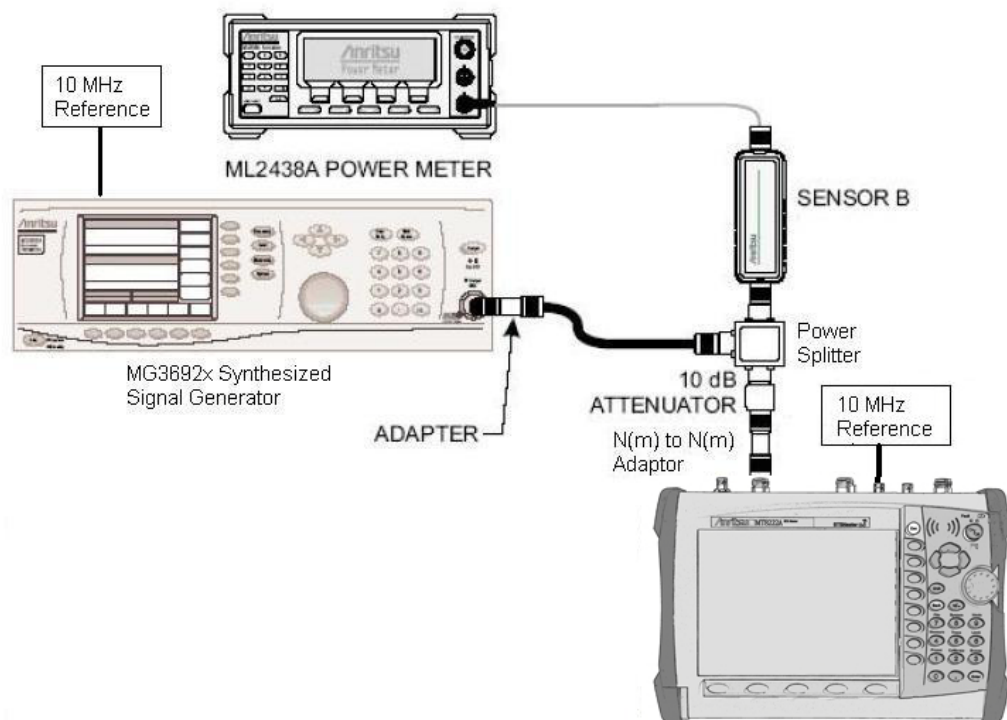

Figure 2-3. 50 MHz Amplitude Accuracy Verification Setup
1. Connect the equipment as shown in Figure 2-3.